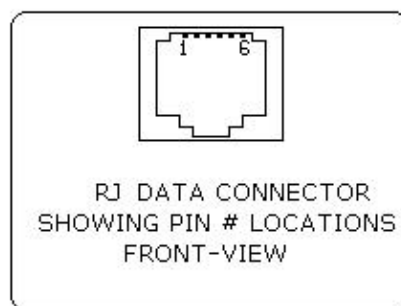

FIGURE 12 – RJ DATA CONNECTOR
- Six connections are provided from the Serial Interface to the host computer. Table 3 lists the Serial Interface signals and pin outs on the RJ connector and the connector pin locations are shown in Figure 12.